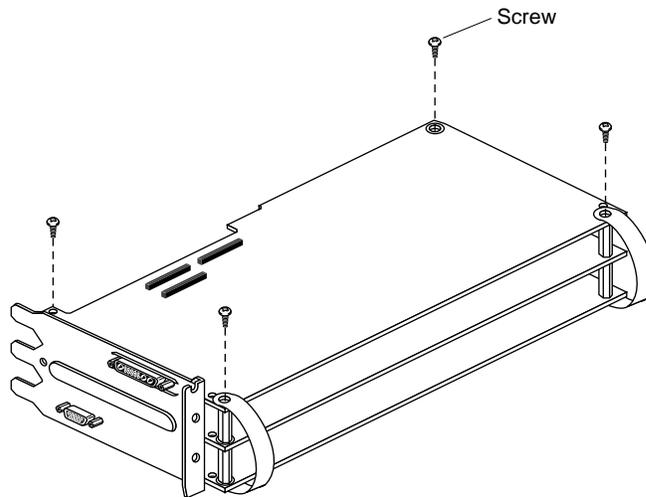

Figure 2-15 Removing Graphics Board Set Screws
2. Remove the four screws from the corners of the graphics board set (Figure 2-15).